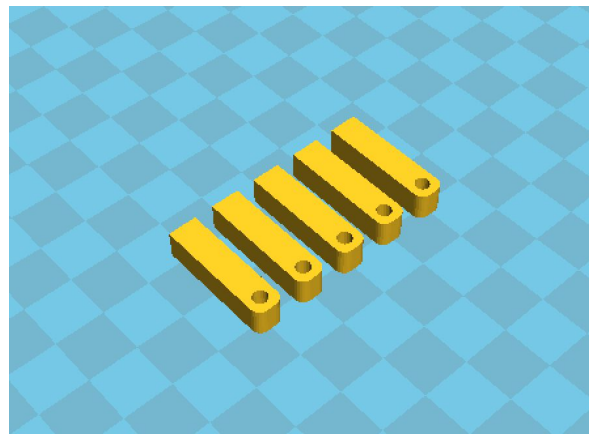

Fig.10: Orientation of Pins
- Pins: You need 5 pins per hand. These are printed with the Ultimaker using PLA. Please use the same profile as you used for the Gauntlet. Orient the pins as seen below (Fig.10).